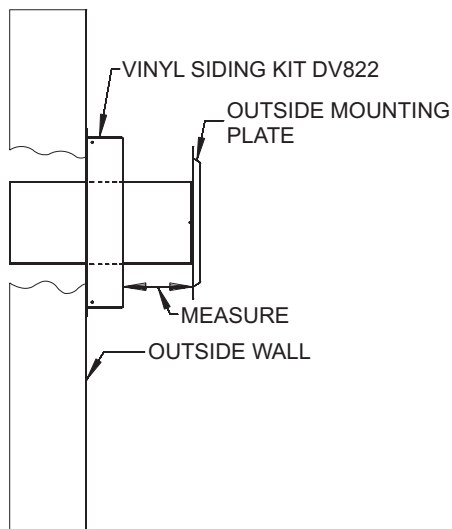
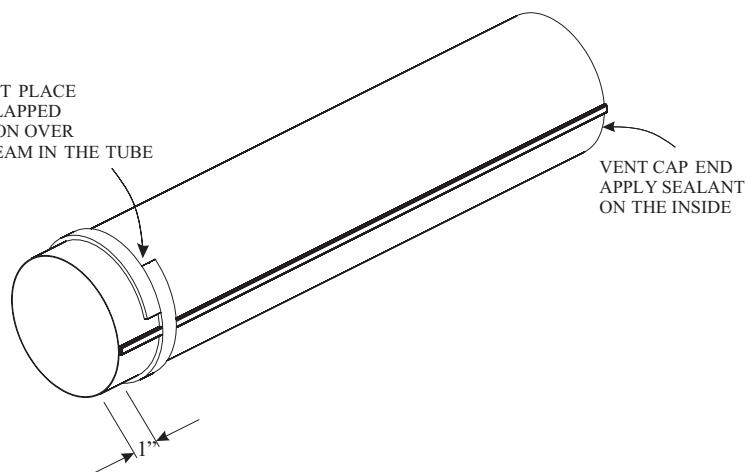

Figure 54
Figure 56
5. Attach the inlet tube to the outside mounting plate. Align tinnerman clips on the tabs of the air inlet tube to the holes on outside mounting plate, and fix with (2) #10 x 1/2" screws.
6. With the vinyl siding kit installed to wall (if necessary), insert the 6 5/8" (168mm) diameter tube with outside mounting plate attached through hole in wall. Connect to collar on fireplace or rigid vent system. Measure between wall or vent cap extension and outside mounting plate (Figures 54 and 55).
8. Attach the 4" (102mm) diameter flue outlet tube onto the rigid venting system or directly to fireplace. Ensure the 4" (102mm) diameter flue outlet tube is placed as far as possible onto the rigid venting system. Mark the 4" (102mm) diameter flue outlet tube 2 1/2" (64mm) beyond the vinyl siding kit or wall. See **Figure 54**. Remove the 4" (102mm) diameter flue outlet tube from rigid venting system. When installing directly to fireplace, tape gasket needs to be used.
10. From outside: Push the 6 5/8" (168mm) diameter inlet tube/mounting plate onto end of rigid venting system to correct position. Fasten the outside mounting plate to the vinyl siding kit or wall with (4) 10 x 1 1/2" screws. (Ensure upward slope).
11. From inside: Attach the inlet tube to the collar on the back of the fireplace (or the rigid venting system) using (3) self tapping screws.
12. Seal the 4" (102mm) diameter flue outlet tube. Follow instructions and diagram (**Figure 56**).
14. Fasten vent cap end using (3) 10 x 1/2" screws to mounting plate.
If the air inlet and flue outlet tubes are to be connected directly to the unit (no rigid venting system is being used), then the gasket provided must be used to seal the 4" (102mm) flue outlet tube. Peel the paper off the self-adhesive gasket and then wrap it around the end of the tube (if tube was cut, it is recommended to use cut end) as shown in Figure 56. Pull the gasket tight at all times while wrapping it around tube. The gasket ends should align, to form a complete seal. The overlapped section should NOT come in contact with the seam in the tube. Apply high temperature sealant to the opposite end of the tube (on the inside of the tube). The end with the gasket will attach to the back of the unit. Continue with Step 13.